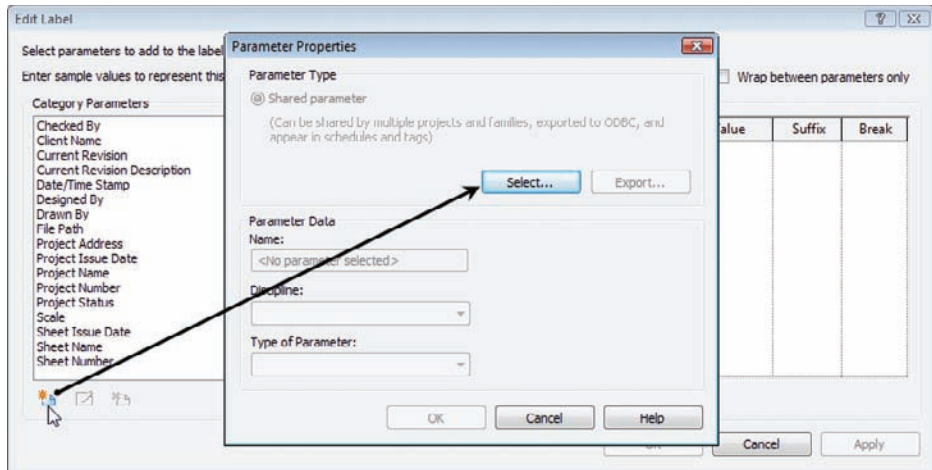

FIGURE 23.26 Adding the parameter to the label
7. Once you pick the point, you will see an Edit Label dialog. Click the Add Parameter button, as shown at the lower left in Figure 23.26.